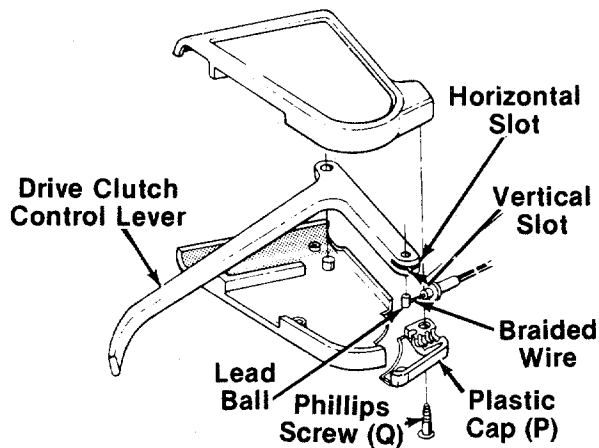

FIGURE 10.
- b. Slide the braided wire around in the horizontal slot. See figure 10.
- d. Secure the plastic cap (P) to the clutch control housing using the two Phillips head screws (Q). See figure 10.